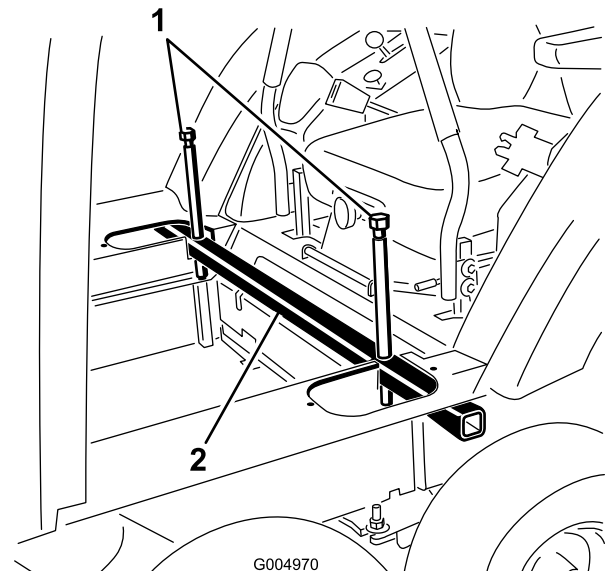

Figure 41
10. Lower the cab into position by slowly and evenly loosening the jacking bolts on each end of the jacking tube (Figure 41).